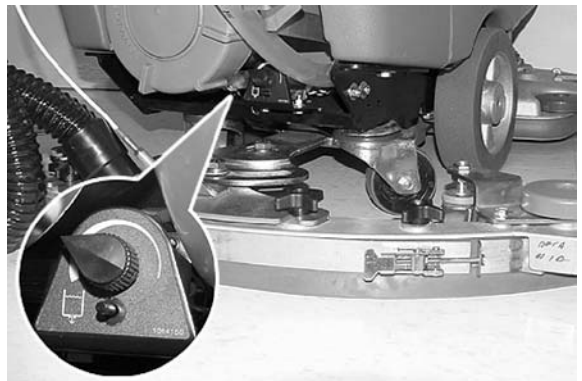

FIG. 22
7. For conventional scrubbing, turn the solution flow control knob to a desired flow rate (Figure 22).